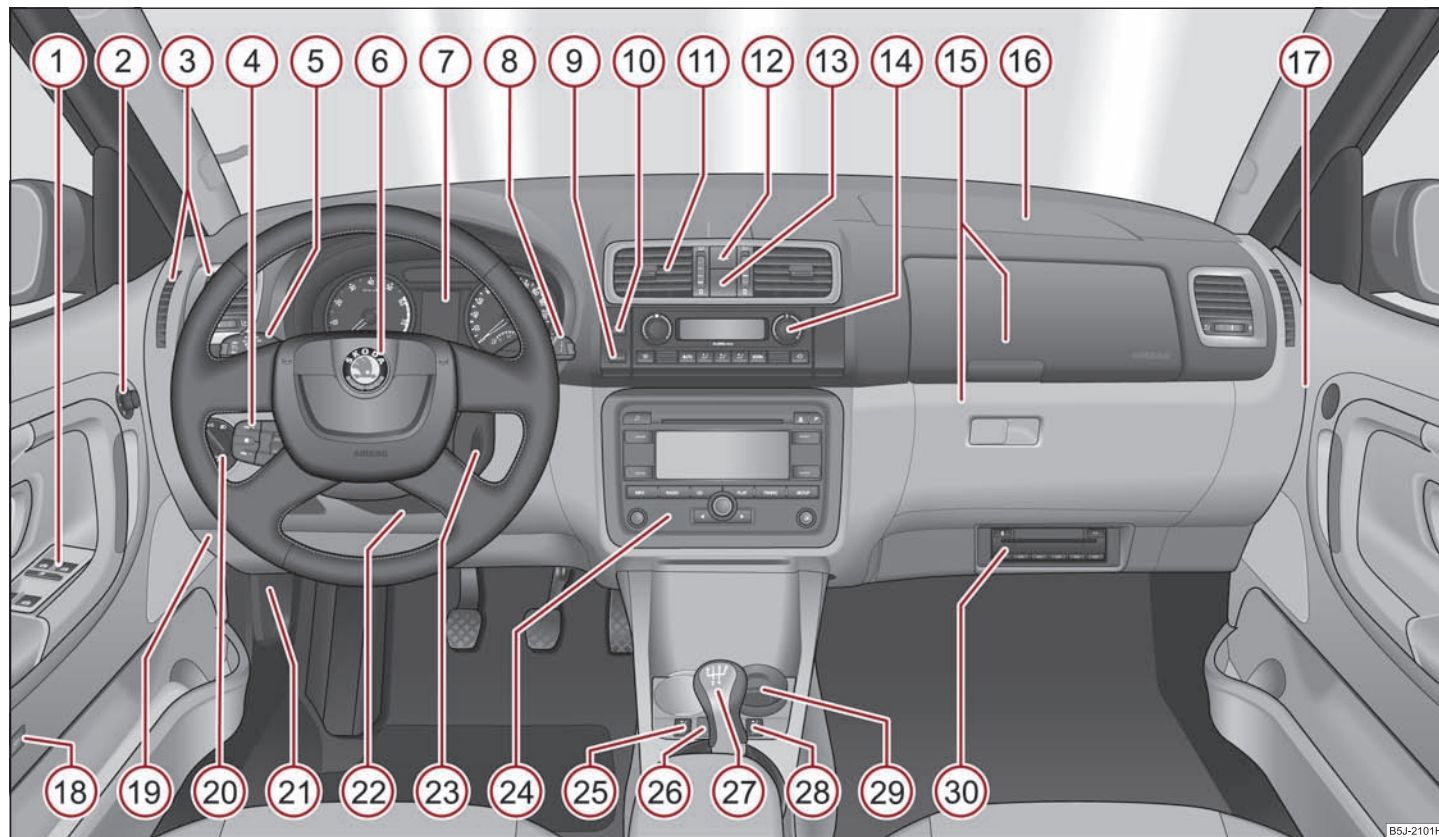

Fig. 1 Certain items of equipment shown in the illustration are only fitted to particular model versions or are optional items of equipment.
- The arrangement of the controls and switches on right-hand drive models may differ to some extent from that shown on ⇒ page 7, fig. 1. The symbols on the controls and switches are the same as for left-hand drive models. ■